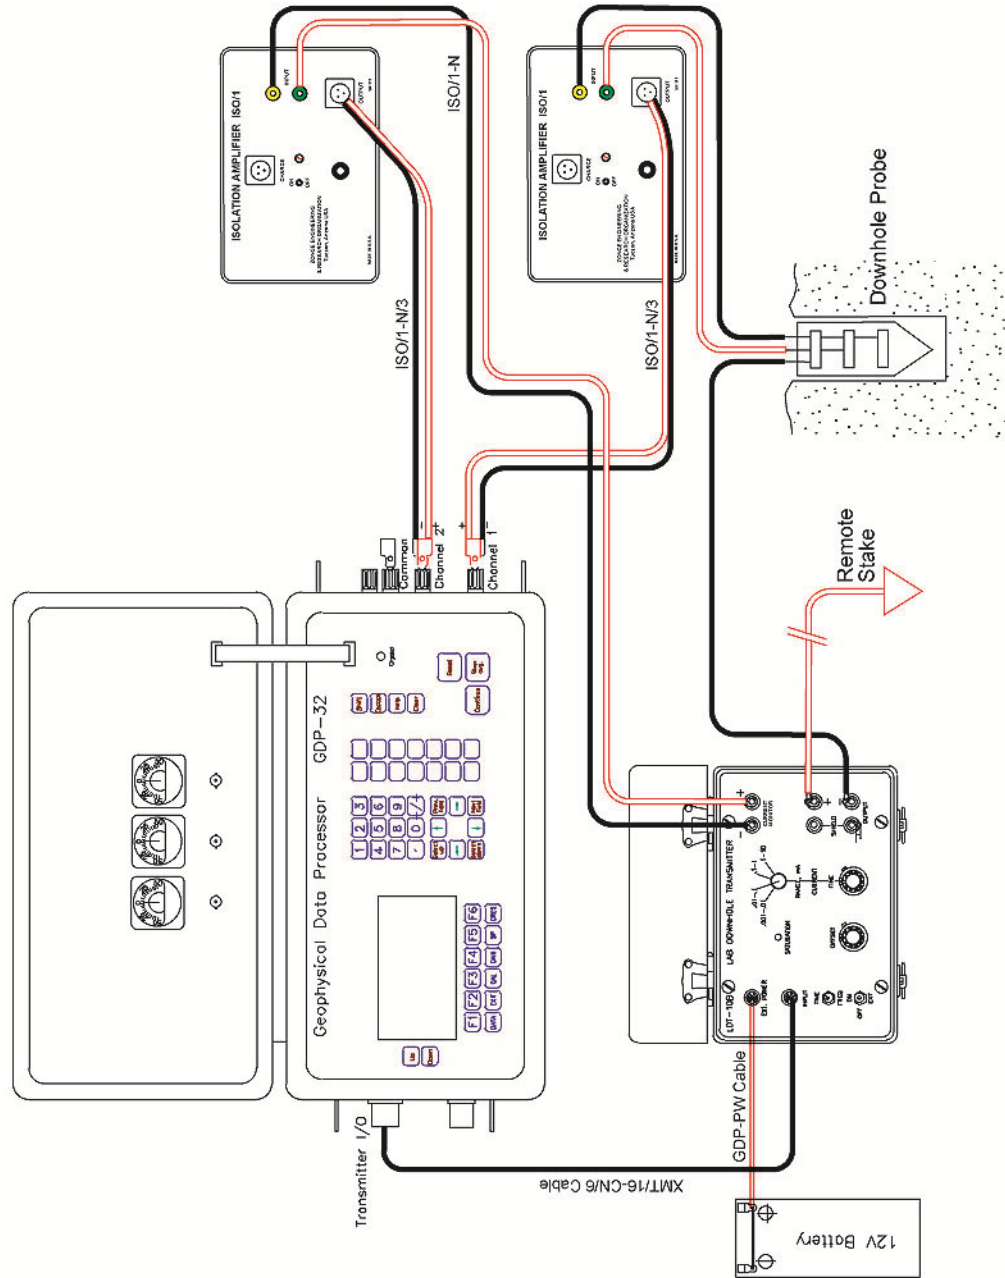

Figure 4 Lab Transmitter Downhole Configuration with Isoamps.
- 3.2. By using two ISOLATION AMPLIFIERS, ground loops may be reduced between the transmitter and the receiver. This connection is illustrated in *Figure 4*.